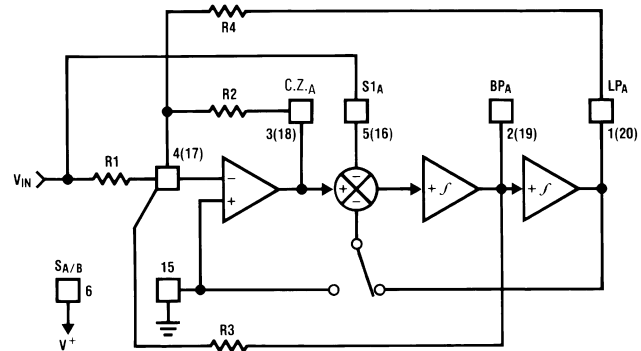

Figure 47. MODE 5
8.4.1.8 MODE 5: Numerator Complex Zeros, BP, LP (See Figure 47)